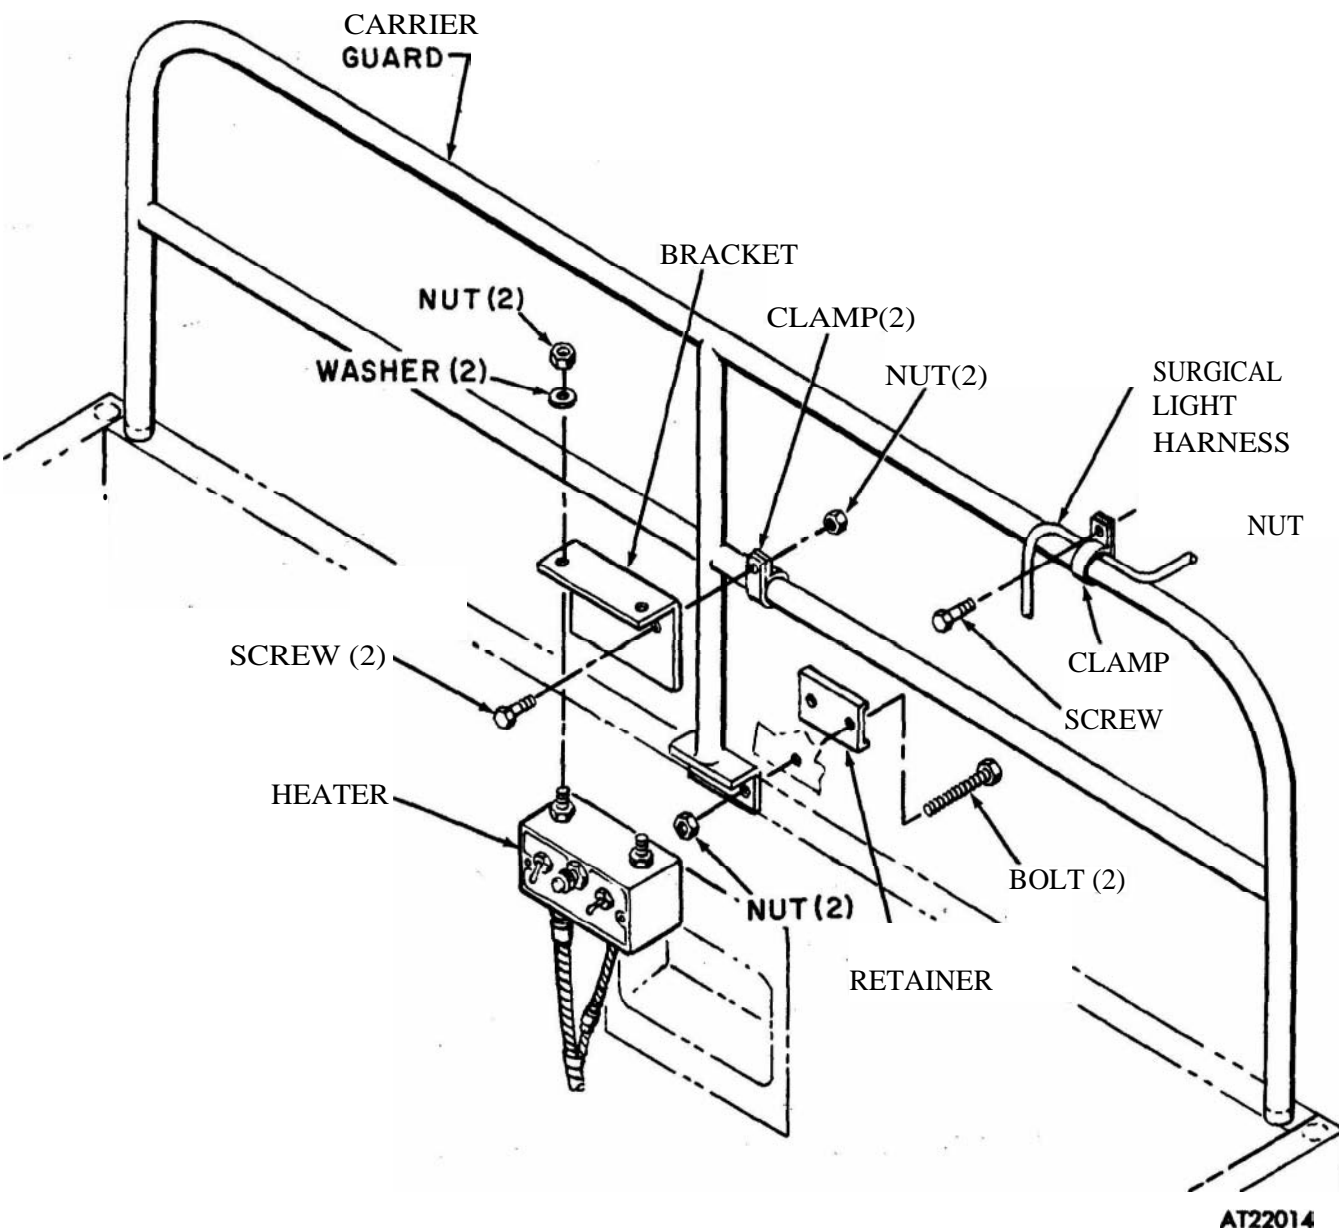

Figure 2-362. M792 ambulance carrier guard, removal and installation.
(1) Remove two screws and washers securing retainer, canopy, and guard assembly bracket to carrier. Remove retainer (fig 2-362).
(2) Remove clamp securing surgical light harness to guard rail by removing screw and nut.
(3) Remove screws and nuts securing clamps holding heater control box and bracket to guard rail.
(4) Remove guard assembly from carrier.
- (1) Position guard assembly on front of carrier panel (fig 2-362).
- (2) Position and secure heater control box and bracket to *guard rail* with two clamps, screws and nuts.
- (3) Position clamp to surgical light harness and guard rail. Secure clamp with screw and nut.
- (4) Align mounting holes of canopy retainer, canopy, and guard assembly bracket with those of carrier panel. Secure assembly with two screws, **four washers, and** two nuts.